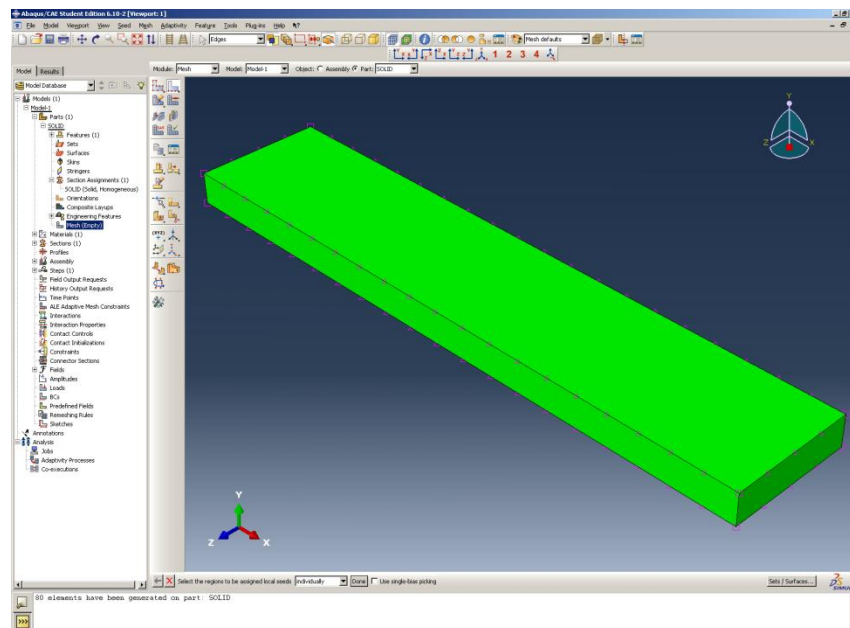

Figure 14. Seeded Geometry
- Click OK. The model will now appear to be seeded with evenly spaced pink points along its edges Figure 14.